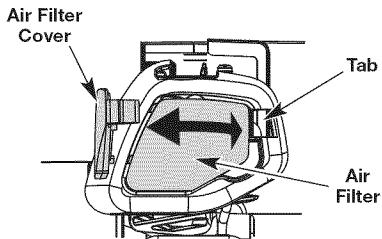

Fig. 22
1. Open the air filter cover by pressing the lock tab in and pulling out on the air filter cover (Fig. 22).
2. Remove the air filter (Fig. 22).
6. Replace the air filter into the base plate (Fig. 22).
7. Reinstall the air filter cover. Position the two small tabs on the air filter cover into the two slots in the base plate and press the air filter cover down, making sure to align the lock tab with the lock tab slot, until it snaps into place (Fig. 22).